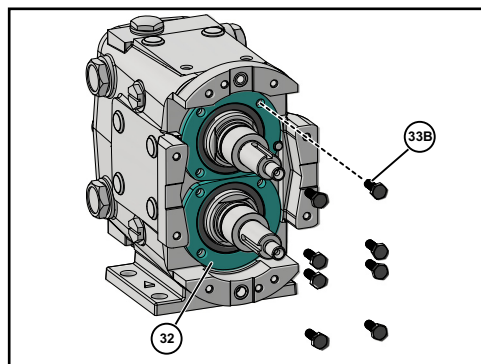

Figure 41 - Remove Bearing Retainers
- Prevent the shafts from turning by placing a wedge or soft dowel between the gears (Figure 41, item A). Use a gear nut driver tool (see below) to remove the gear locknut. The gears will be removed later.
- Remove the front bearing retainer screws (Figure 41, item 33B) and pull off the bearing retainers (item 32). (If a retainer is stuck, leave it in place; it will press out when the shaft is removed.)